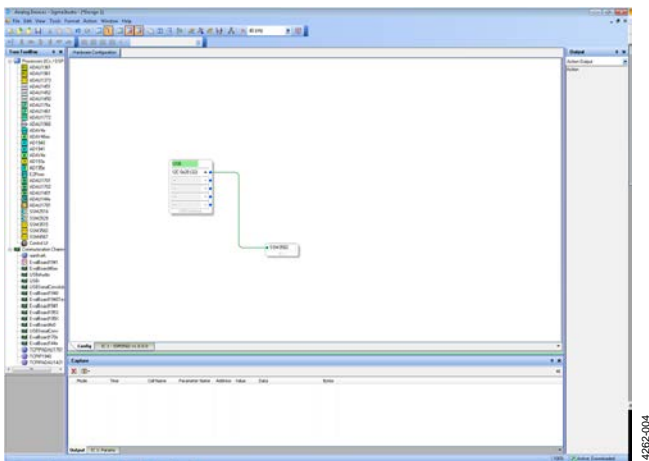

Figure 4. USBi to SSM3582 Configuration
6. Connect the USBi board to the SSM3582 block or the SSM3582A block on the **Hardware Configuration** tab schematic (see Figure 4 for the SSM3582 example).